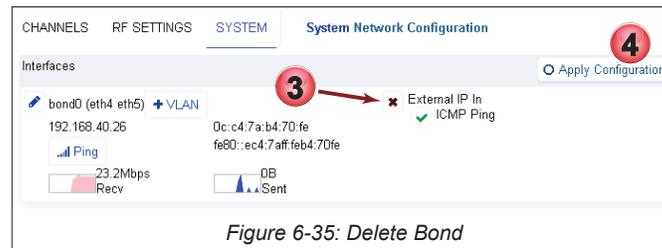

Figure 6-35: Delete Bond
3. Click the red X **✖** in the bond you wish to delete, Figure 6-35.